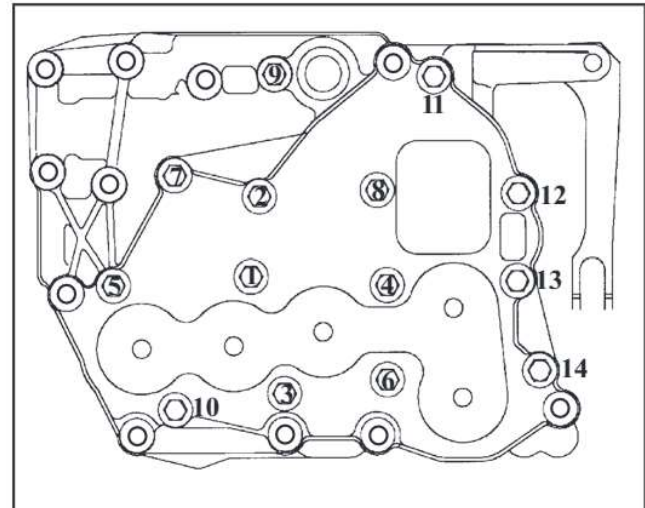

Figure 188
24. Torque all 14 bolts to 11. N•m (97 in. lbs.) in the numerical sequence shown in Figure 188.